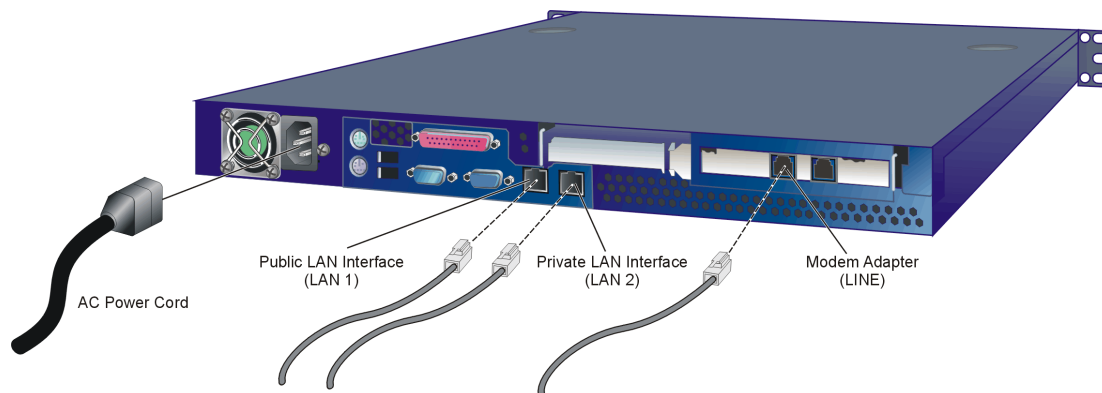

Figure 2-31 1U Management Server Connections
- a. As shown in Figure 2-31 on page 2-49, connect one end of the Ethernet patch cable (supplied with the management server) to the right RJ-45 adapter (**LAN 2**) at the rear of the server.
- a. As shown in Figure 2-31, connect one end of a customer-supplied Ethernet patch cable to the left RJ-45 adapter (**LAN 1**) at the rear of the server.
7. As shown in Figure 2-31, connect the 20-foot phone cord to the left RJ-11 adapter (**LINE**) at the rear of the server and to a facility telephone connection.
8. As shown in Figure 2-31, connect the AC power cord to the server and to a facility power source or rack power strip that provides single-phase, 90 to 264 VAC current.